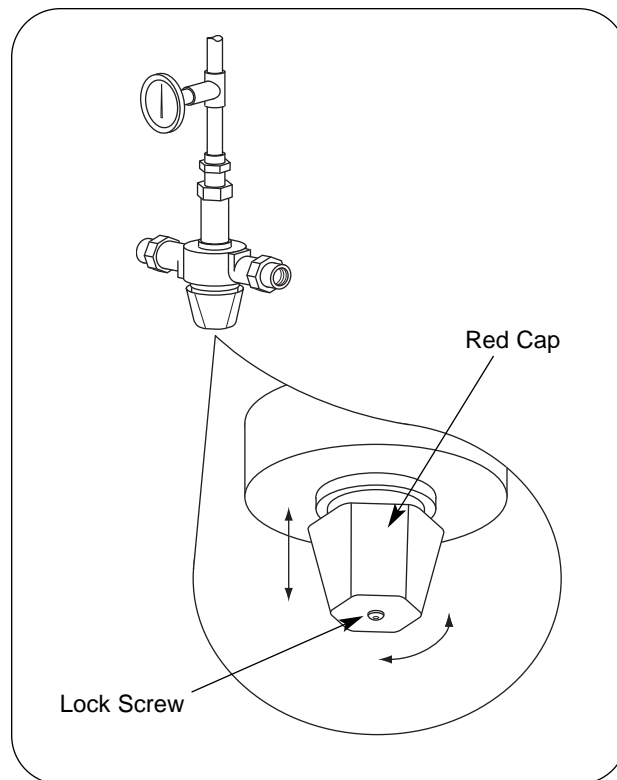

Figure 9. Adjusting Water Temperature
2. To adjust the water temperature, loosen the lock screw beneath the red cap on the mixing valve with the allen wrench provided. (See Figure 9.)